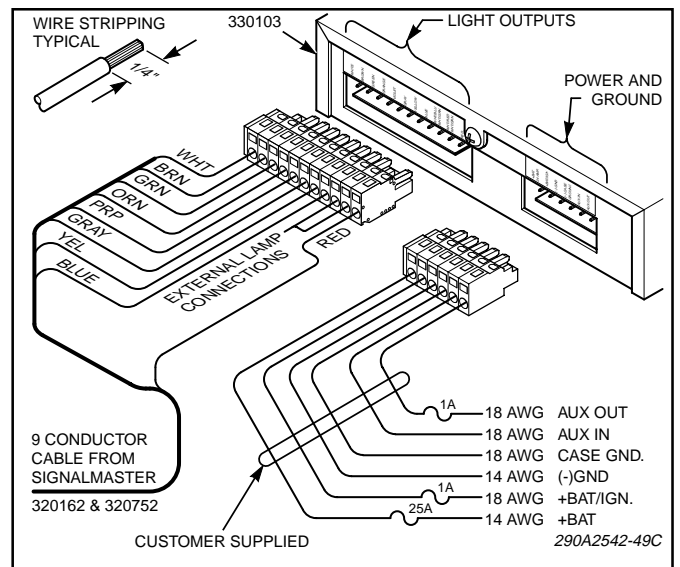

Figure 2.
The control unit is supplied with a six-position connector and a eleven-position connector to perform the electrical installation. User-supplied, 14-gauge red and black wires are required for the (+) BAT and (-) GND connections on the six-position connector. User-supplied, 18-gauge red and green wires are required for the (+) BAT/IGN and CASE GROUND connections on the six-position connector. In addition, user-supplied 18-gauge wire is used for the AUX IN and AUX OUT connections. Using figure 2 as a guide, complete this portion of the installation as follows:
When a positive (+)12 volts is applied to the AUX IN connection, the alternating flash pattern is activated. The AUX OUT connection will provide a ground to activate a ground-activated relay ( user-supplied) when the AUX switch is operated. To perform the wiring for these connections, proceed as follows (see figures 2 and 3):
c. Connect the 18-gauge wires and 16-gauge red wire to the eleven-position connector as shown in figures 2 and 3. Positions 9 and 10 are used for external lamp connections. Each of these two positions provides an alternating ground signal to activate external lamps.